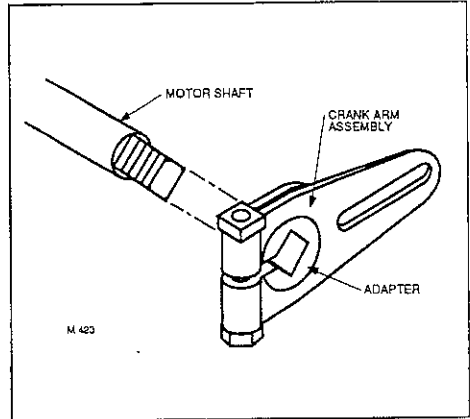

Fig. 2—Install crank arm assembly.
1. Install the crank arm assembly on the motor shaft (see Fig. 2).